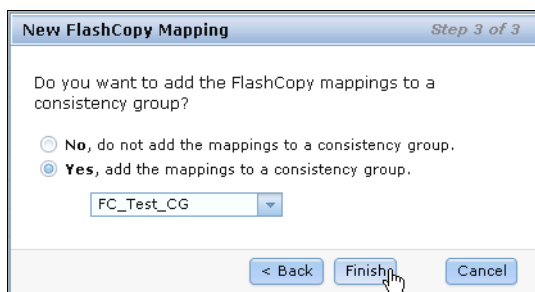

Figure 9-29 Select a consistency group to add the FlashCopy mapping to
- d. Now you can add the FlashCopy mapping to a consistency group (Figure 9-29). Click **Finish** and the FlashCopy mapping is created with the status of Idle.